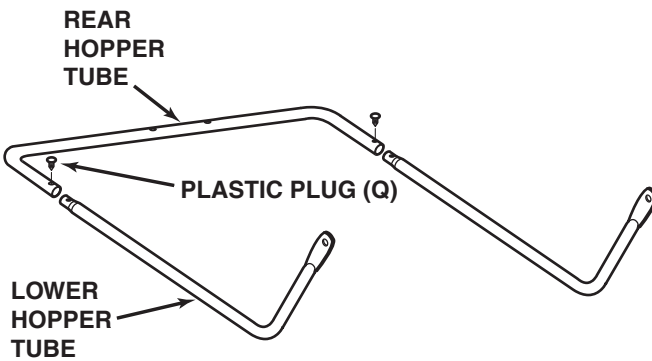

FIGURE 8
- Fit the ends of the two lower hopper tubes into the ends of a rear hopper tube. Align the holes in the ends of the tubes and insert plastic plugs (Q). See figure 8.